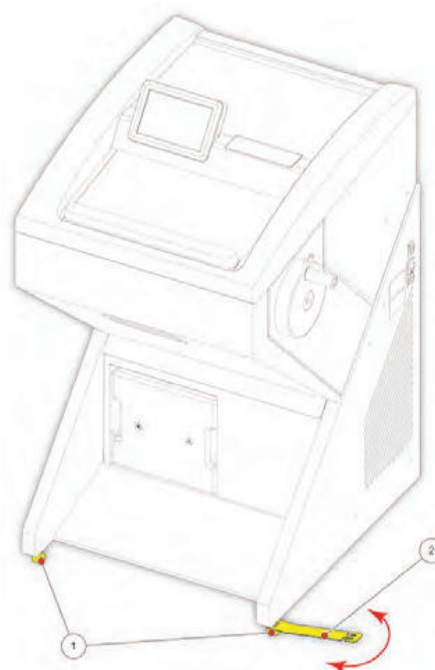

Fig 2a
- The tool (fig. 2a) (item 2) for the height adjustment of the setting feet of the QS12 is packed together with the accessories of the QS12 (separate carton on the foot rest of the QS12).
- To stabilize the complete unit, tighten the screws (fig 2a) (item 1) by using the attached tool.